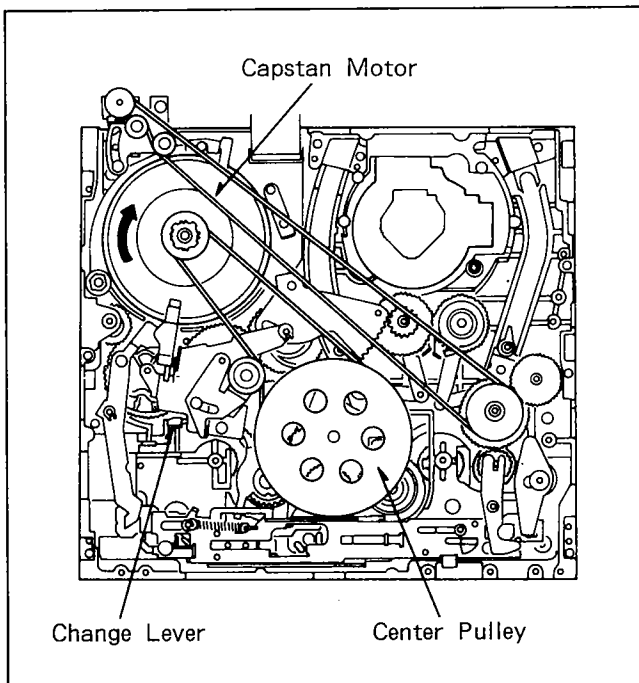

Figure D11
Slide the cassette holder unit for appearing 2 screws (X) by turning (clockwise) the Capstan Rotor Unit (located in the bottom side as shown in Figure D11) and remove the 2 screws (X).